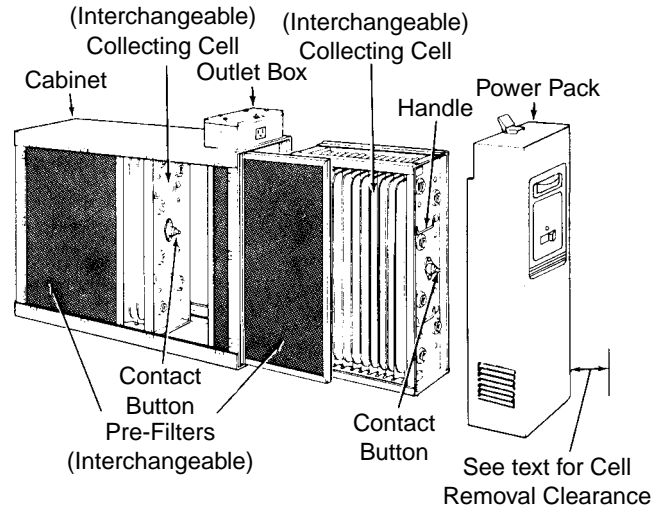

Figure 4
2. Allow the following clearances to permit removal of cells and pre-filters: (See Figures 4 and 5)
Your air cleaner is shipped from the factory with air flow from left-to-right. If this air flow is suitable for the installation, no further changes need to be made (Figure 4). For right-to-left air flow, remove both pre-filter and cell sec-
1. Place the air filter cleaner on the floor. Stand it upright with the power door facing you (Figure 4). If a horizontal installation is being planned, lay the cleaner on its side, this will help you to visualize the relative location of all parts.